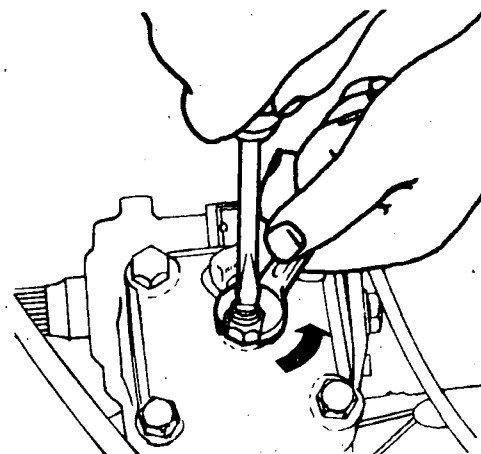

Fig. 1
- b) Remove the lock nut from the adjusting screw of the sector (fig. 1).